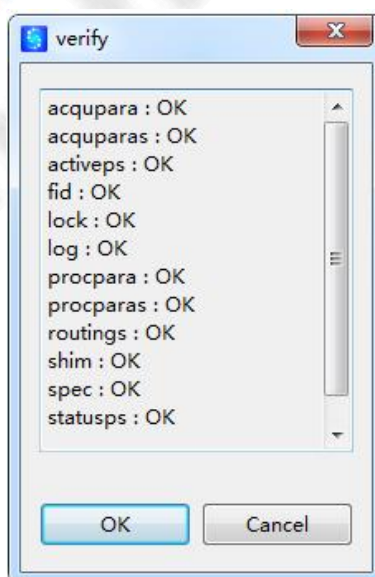

Figure 1.78 Data integrity verification
⑥ Open Local Folder: open the directory of current experiment data in File Manager.
⑦ Verify file integrity: Verify the integrity of the data. This item can be used to check whether the data has been illegally modified, as shown in Figure 1.78.